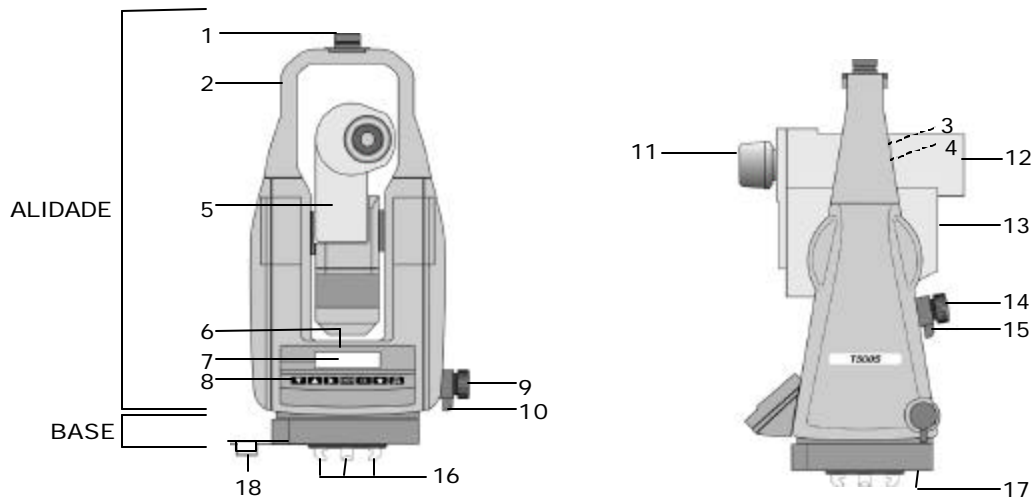

Figure 1-5 T502S Theodolite with MRF 2000 Rangefinder
3. MRF2000-2 Monocular Rangefinder. The MRF2000-2 monocular rangefinder is shown in figure 1-5. The rangefinder (5) is an eyesafe laser rangefinder equipped with a fixed focused ten power telescope. It is mounted centrally on the theodolite. The vertical motion fine adjustment knob, vertical motion locking lever, horizontal motion fine adjustment knob and horizontal motion locking lever are used for aiming and pointing the telescope. It consists of:
- Eyepiece (11).
- Objective for the laser receiver and sighting (12).
- Laser exit window (13).